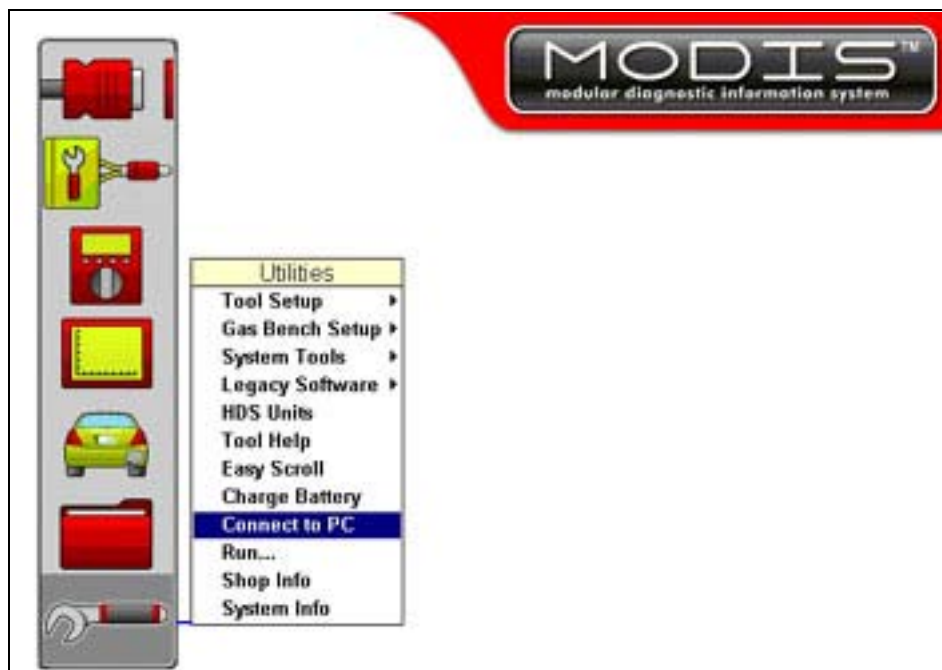

Figure 2-13 Sample MODIS utilities menu
2. From the Main Menu, navigate to **UTILITIES > Connect to PC**, and press **Y** to select. (Figure 2-13).